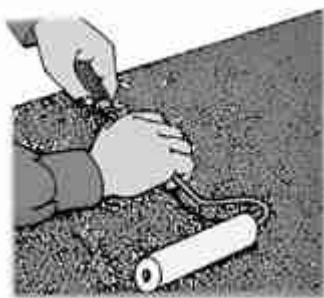

FIG. 11 - Use a roller to apply pressure to the newly laid sheets.
- Use a roller to apply pressure to the newly laid sheets of laminated plastic (Fig. 11). Roll the entire surface thoroughly to eliminate air pockets and to be sure the plastic sheet is firmly attached to the surface at all points.